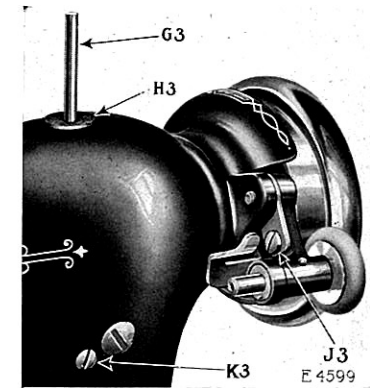

FIG. 24. ADJUSTMENT OF BOBBIN WINDER
With the knee lever held at full speed position, turn the motor frame slightly in each direction until the point where the speed is highest is reached, then firmly tighten the screw (K3, Fig. 24), thus fastening the motor frame securely in position. Then replace the motor cover and the screw in the front end of the armature shaft.
the adjusting screw (J3, Fig. 24) and press down on the bobbin winder until the pulley is in contact with the hub of the balance wheel, then tighten the adjusting screw (J3). The pressure of the bobbin winder pulley against the hub of the balance wheel should be just sufficient to cause the bobbin winder pulley to rotate. Too much pressure will prevent the bobbin winder pulley rotating.
- (b) Remove the two screws (K3, Fig. 24, page 27) which hold the motor.
- (j) Replace the screws (K3, Fig. 24). The final position of the motor has an important bearing on the free running of the machine, and it may be necessary to slightly shift the motor to the left or right before the final tightening of the screws (K3).